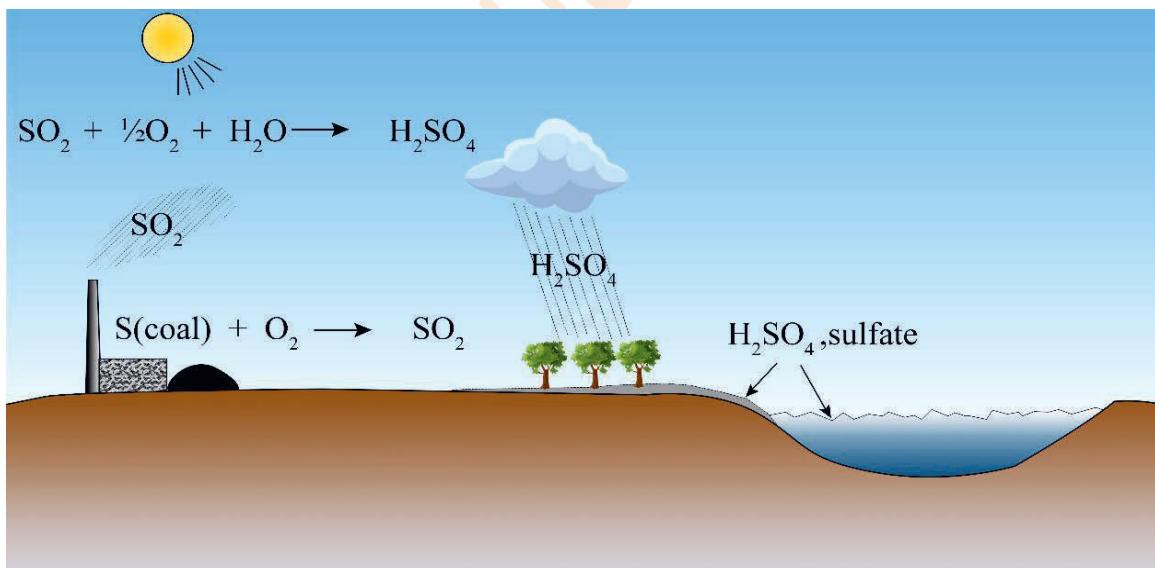

Figure 5.1: Simplified schematic diagram that shown fate of pollutant species in the environment.
- A common pollutant species is used to illustrate the definition of environmental chemistry. Sulfur in coal is oxidized to sulfur dioxide gas, which is then released into the atmosphere. Sulfur dioxide gas can be oxidized to sulfur trioxide and converted to sulfuric acid in the atmospheric, then fall back to earth as acid rain, affect a receptor like plants, and end up in a “sink” like a body of water or soil. Figure 5.1 shows a simplified schematic diagram that shown fate of pollutant species in the environment.